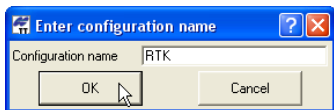

Figure 2-4. Enter Configuration Name
- On the *Enter configuration name* dialog box, type the configuration's name and click **OK** (Figure 2-4).